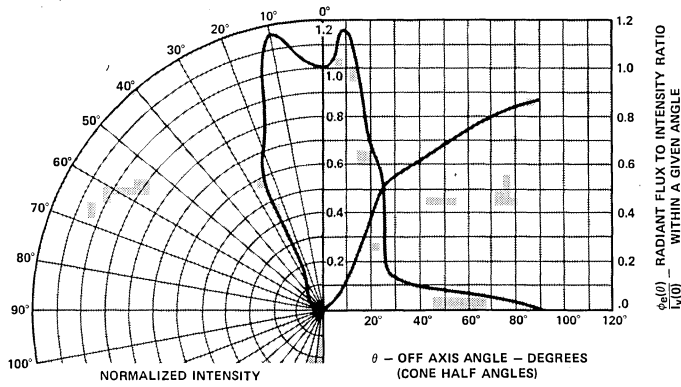

Figure 8. Far Field Radiation Pattern, HEMT-3301
4. Approximate radiant flux output within a cone angle of 2θ : $\phi_e(2\theta) = [\phi_e(\theta) / I_e(0)] I_e(T_A); \phi_e(\theta) / I_e(0)$ obtained from figure 8 or 9.